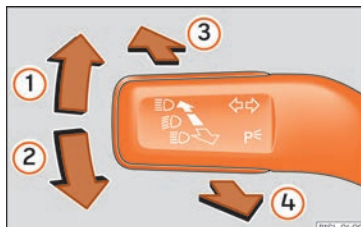

Fig. 116 Turn signal and main beam lever.
- From the base position, press the turn signal and main beam headlights lever forwards » **Fig. 116** .
- **EITHER:** if light assist is on, pull the turn signal light and main beam headlights lever backwards » **Fig. 116** .